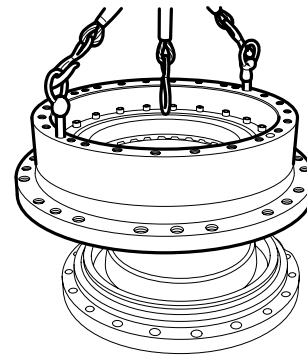

Figure 24
1. Lift housing assembly with hoist, check if installed floating seal are still properly assembled. Position housing assembly on motor assembly (Figure 24).